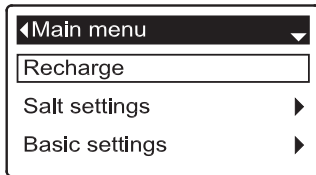
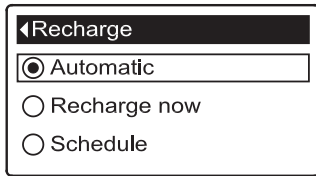
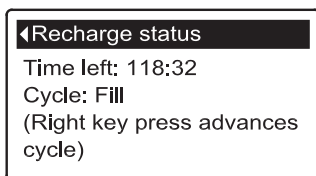

FIG. 33
FIG. 34
FIG. 35
2. Make sure **Recharge** is highlighted (See Figure 33).
3. Press the SELECT (O) button to display the Recharge menu (See Figure 34).
4. If the desired option already has a black dot next to it (See Figure 34), go to Step 5. Otherwise, press the DOWN (▼) or UP (▲) buttons to scroll to the desired option, then press SELECT (O) to choose it.
- **Recharge now** begins a recharge immediately after the SELECT (O) button is pushed again in Step 5.
5. Press the SELECT (O) button. If **Recharge now** is selected, the display immediately goes to the Recharge status screen (See Figure 35). If **Automatic** or **Schedule** are selected, the display goes back to the Main menu (Figure 33).